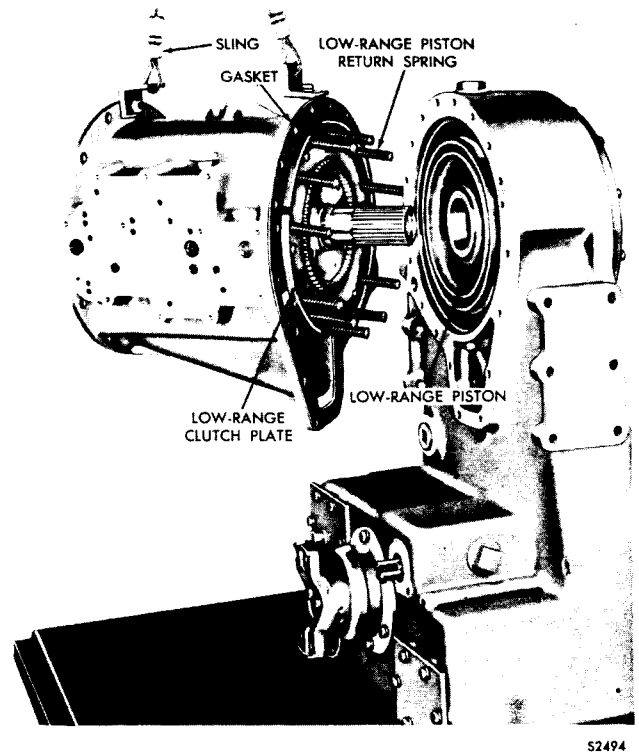

Fig. V-18. Removing transmission housing assembly
(1) Position the transmission upright. Attach a sling to the transmission housing (fig. V-18).
(3) Carefully separate the transmission housing section from the transfer housing section to avoid dropping clutch piston return springs and pins, and the low-range clutch plates (fig. V-18).
(4) While the transmission housing assembly is suspended, remove the 12 clutch piston return springs and pins. Remove also two external-tanged and one internal-splined, low-range clutch plates (fig. V-18).